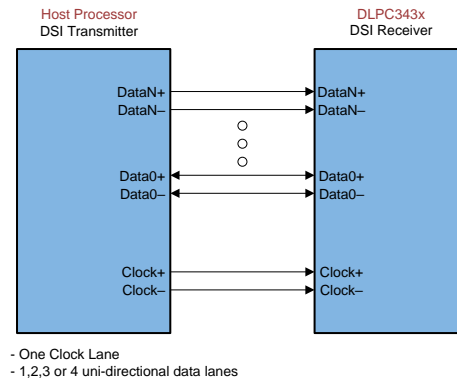

Figure 16. DSI - High Level View
The DPP3432 input interface supports the industry standard DSI type-3 LVDS video interface up to 4-lanes. DSI is a source synchronous, high speed, low power, low cost physical layer. The DSI-PHY unit is responsible for the reception of data in high speed (HS) or reception and transmission of data in low power (LP) mode for unidirectional data lanes. Point-to-point lane interconnect can be used for either data or clock signal transmission. The high speed receiver is a differential line receiver while the low-power receiver is an un-terminated, single-ended receiver circuit. Figure 16 shows a single lane module with PPI interface.